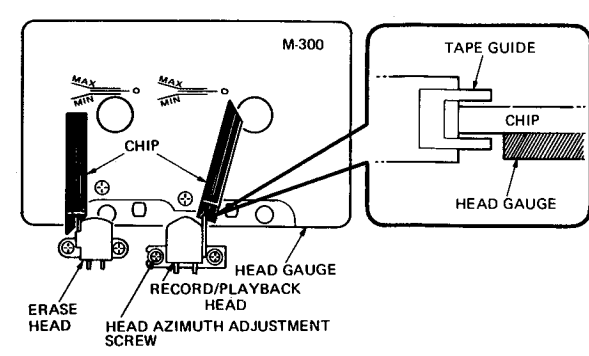

Fig. 1
- b) Set the unit in the playback mode and place the adjustment chip on the head gauge as shown in the Fig. 1.